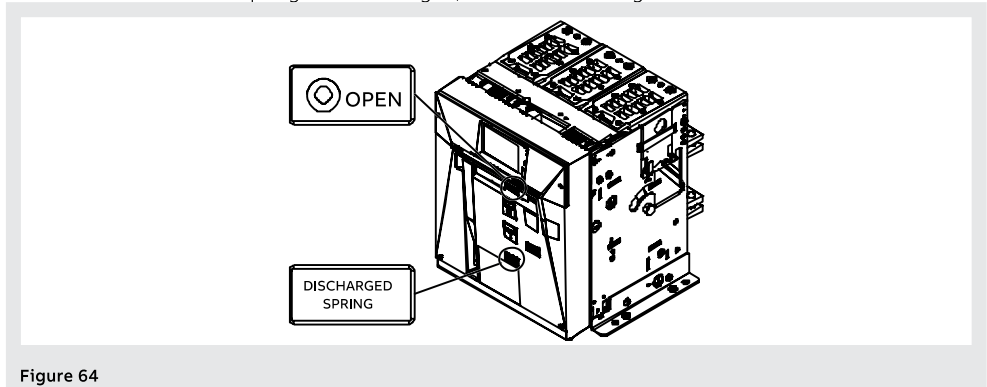

Figure 64
7. Make sure that the circuit-breaker is open. The “O - OPEN” open/closed indicator indicates opening. Check that the springs are discharged. The “DISCHARGED SPRING - white colour” spring indicator indicates that the springs are discharged, as illustrated in Figure 64.